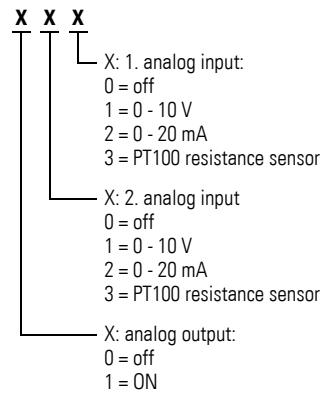
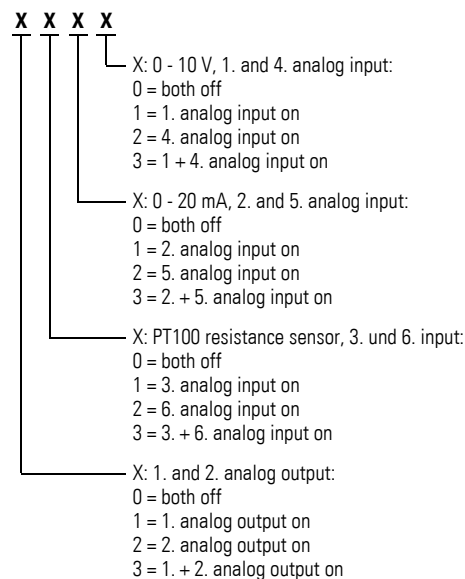

Figure 77: Configuration code EASY406-DC-ME (three-digit)
Figure 78: Configuration code EASY411-DC-ME (four-digit)
- ▶ Use the cursor buttons < > to select the digits to be modified, and then use the ^ v buttons to set the required value. Set the configuration code accordingly (→ Figure 77, page 85 and → Figure 78, page 85).